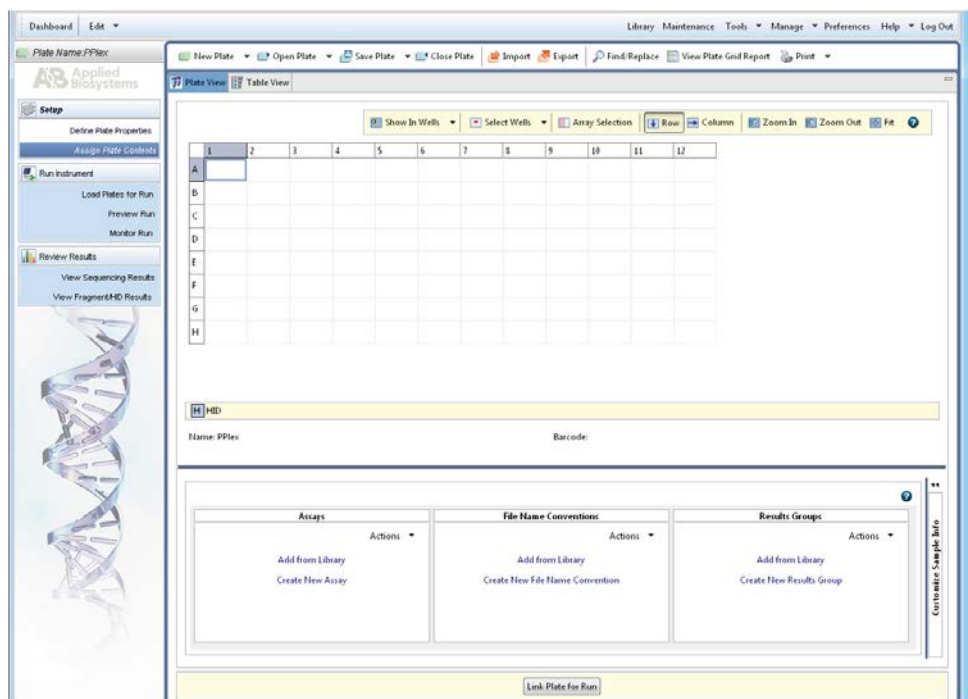

Figure 10. Assigning plate contents.
5. Select “Assign Plate Contents” (Figure 10).